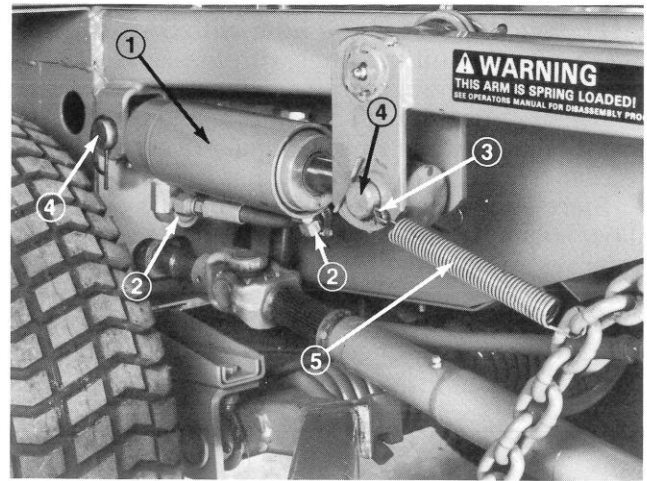

Figure 80
2. Remove hoses from lift cylinder (Fig. 80) and cap the hoses to prevent contamination.
3. Remove hair pin cotters and spring from cotter pin. Remove pins and slide cylinder from between the lift arm and the stationary mounting bracket (Fig. 80).
4. Install new cylinder with pins, and assure the cotter pin (Fig. 80) securing moveable end of cylinder is to the outside. Hook chain tension spring through eye of cotter pin.